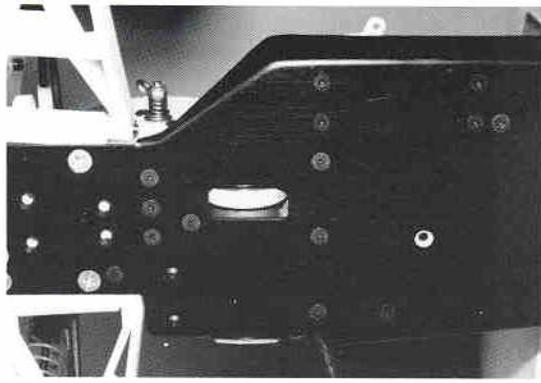

Fig. 300
Step 17 If you are going to be using a starter motor, fig. 300 shows where the cutout in the bottom of the chassis is located around the flywheel. Go ahead and get the starter set up and ready to go. To use it, you will need to bump the starter motor rubber donut against the flywheel, through this opening, and then hold it there after the motor starts to turn over. **WARNING! the flywheel on the engine must rotate counter clockwise (when looked at from the clutch end) in order to work correctly. Check the direction of rotation of the starter motor rubber donut when placed under the chassis. If it was brought in from the clutch side it should rotate clockwise. If the rotation is backwards you will need to bring the starter motor in from the other side of the chassis or reverse the starter motor connections to the battery.**